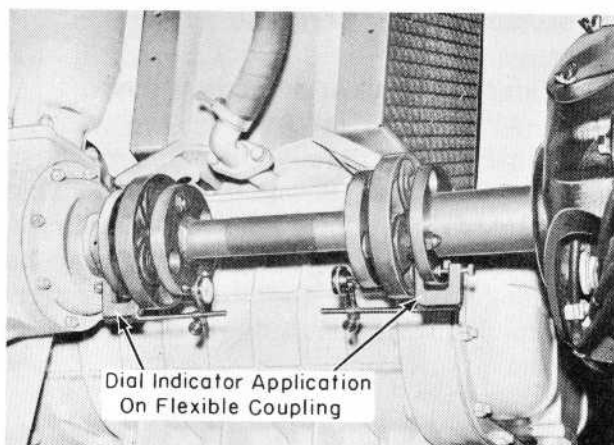

Fig. 12 - Auxiliary Generator Drive Coupling Alignment
Fig. 12 shows an application of dial indicators for checking the auxiliary generator drive coupling alignment.
Angular alignment is checked by the indicators 8039138 mounted as shown in Fig. 12. The indicators are attached to brackets secured to the respective drive flange with the button of the indicators contacting the inner face of the inside coupling flange. Position the indicators directly across from each other at the 12 o'clock position and set the dials to zero (0). Rotate the coupling by turning the engine crankshaft, taking indicator readings every 90° of rotation. The auxiliary generator should be positioned and/or shims added or removed so an angular deflection shown on either indicator does not exceed $.020''$ total indicator reading.
Dial type indicators are attached to respective flanges so that the indicator button contacts the inner face of each mating coupling flange, similar to indicator location shown in Fig. 12. The blower housing must be positioned to align the drive shaft.